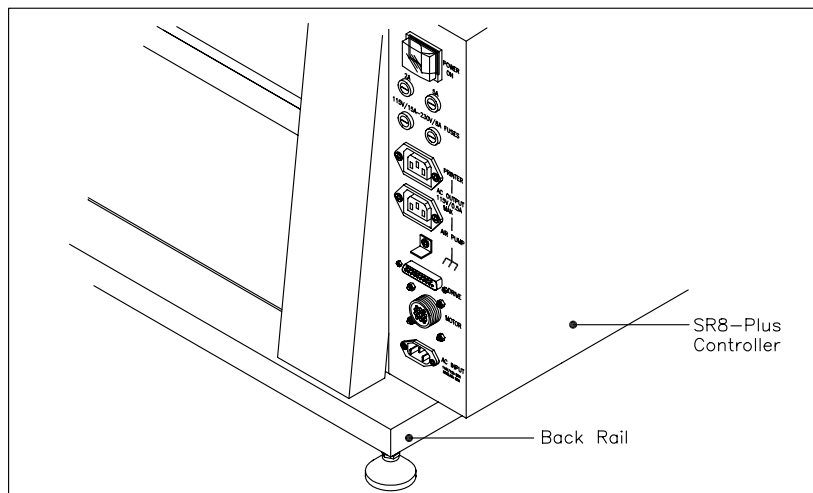

Figure 4-6: Positioning the Controller
3. Position the SR8-Plus Controller on the back rail of the basic system assembly. (see Figure 4-6)
4. Notice that there are a series of connectors on the right-hand side of the SR8-Plus controller. (see Figure 4-6)